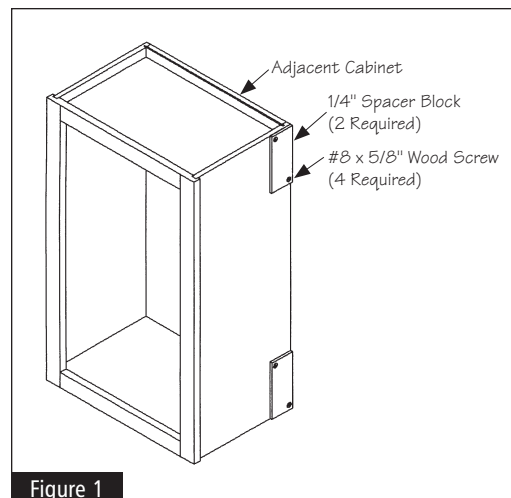

Figure 1
- 1 Skip to Step #2, if you will be attaching your SEW to a 3/4" thick Side Panel. Cut the 1/4" wood spacer in half and attach to the rear of the side panel of the adjacent cabinet. Drill and countersink two 3/32" diameter pilot holes through each spacer and attach the spacers to the cabinet side panel to which the SEW will be mounted using two #8 x 5/8" wood screws for each spacer. Make sure the screw head is flush with spacer surface. See Figure 1.